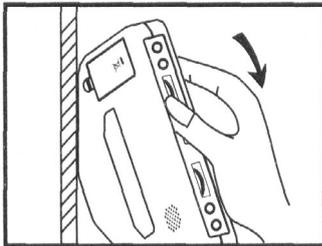

Fig.5
- 3.2.1. With the Stud Detection face against the wall, hold the unit vertically as shown in Fig.5 and turn knob A fully downwards.